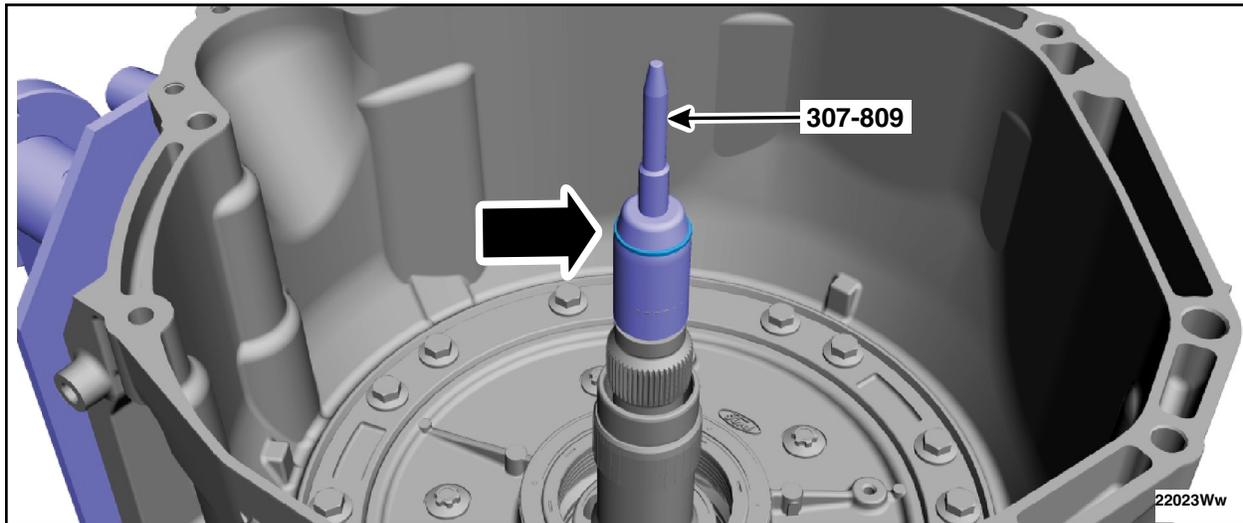

FIGURE 58
67. Install a new (F0) Teflon® seal on the Special Service Tool: 307-809 push & sizer, F0 Seal guide. See Figure 58.